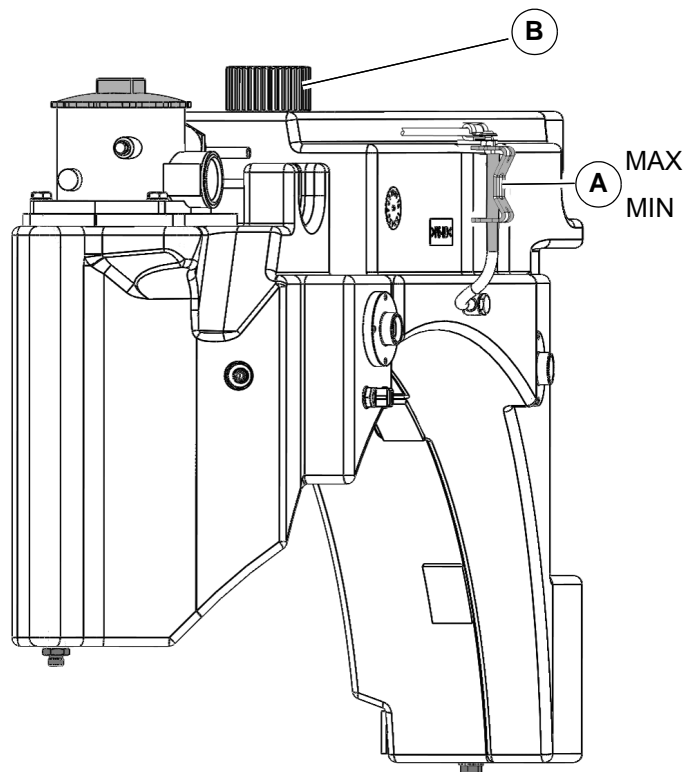

Fig. 90:
Check the hydraulic oil level weekly at the level indicator **Fig. 90-A** and top up as required. Use only hydraulic oils approved by the manufacturer (HVLP 46) e.g. Mobiloil DTE 10 Excel.
2. Unscrew the cap **Fig. 90-B** and top up with hydraulic oil.